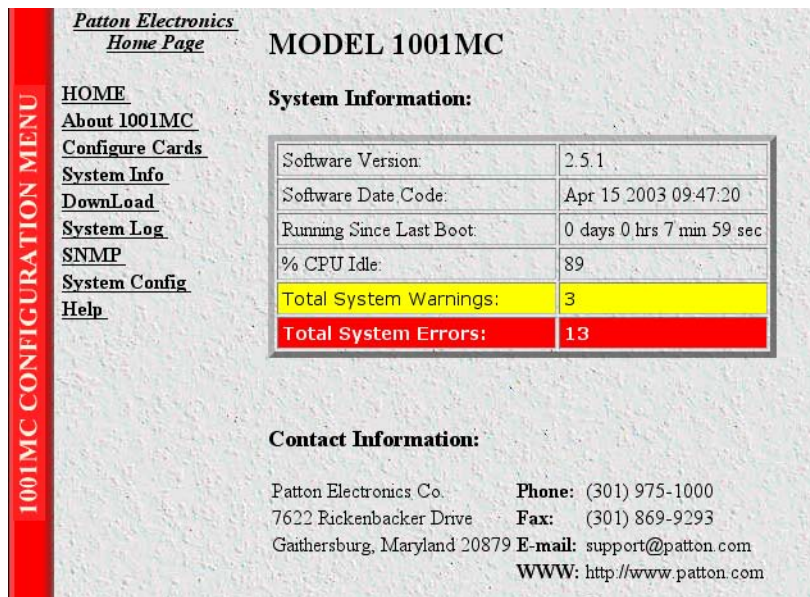

Figure 140. About 1001MC page displaying warnings and errors
- About 1001MC page (see figure 140 on page 279)